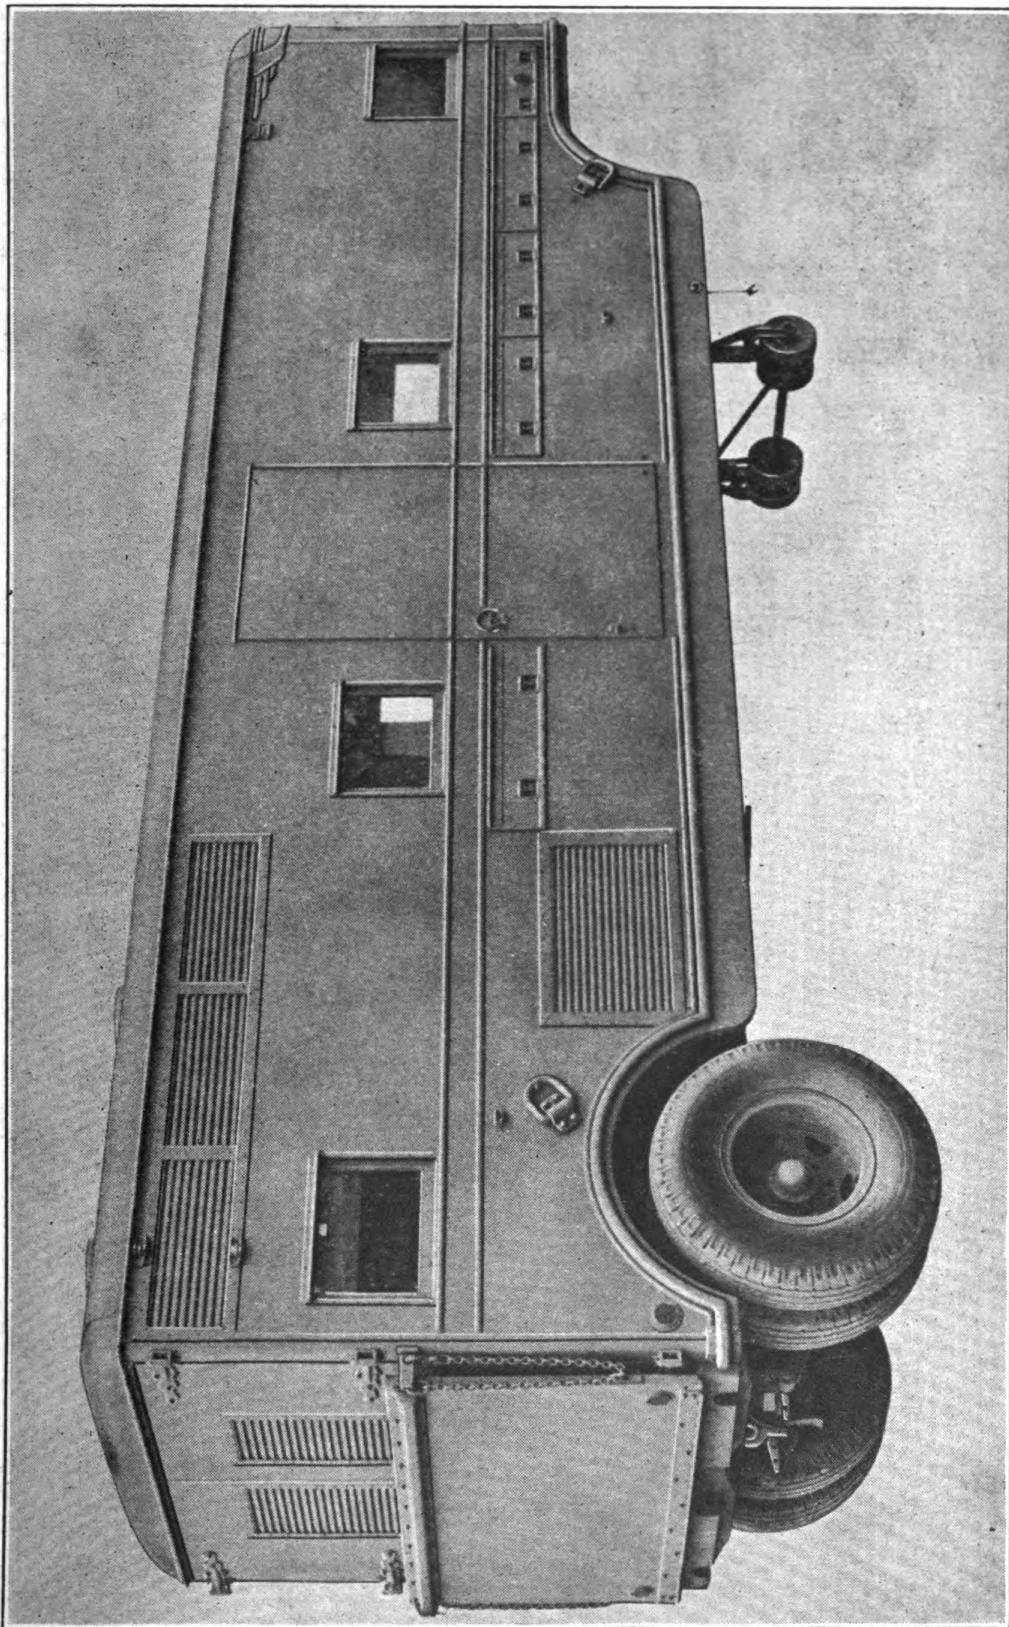

FIGURE 1. FULL VIEW—SEMI-TRAILER—ACETYLENE CHARGING PLANT
a. Identification (Figs. 1 and 2).—This trailer may be identified by its drop-frame van type body; the all-welded construction of the frame and body. Trailer is mounted on dual wheels at rear. It is normally employed with a dual wheel dolly.